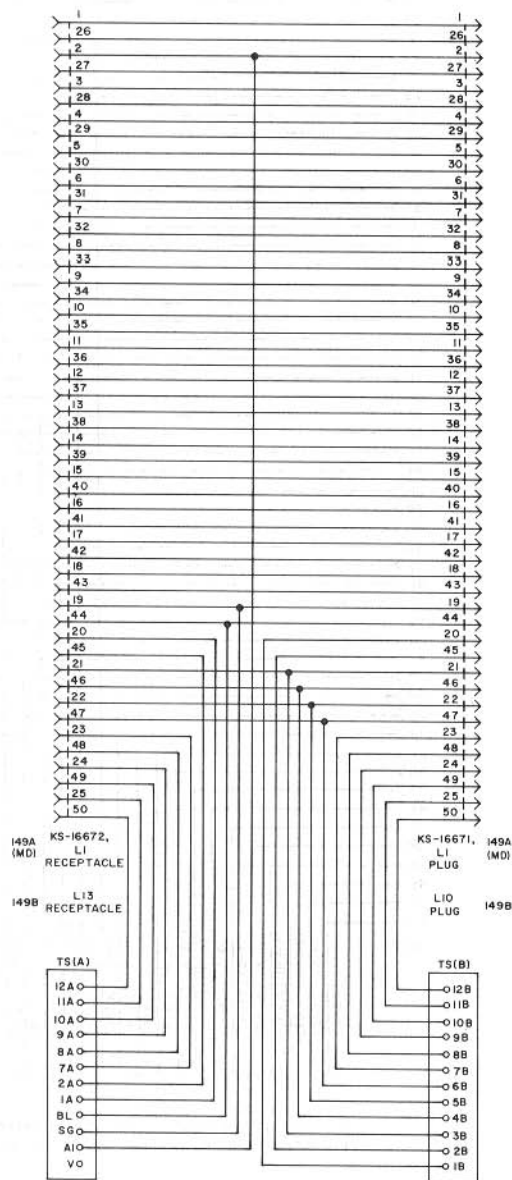
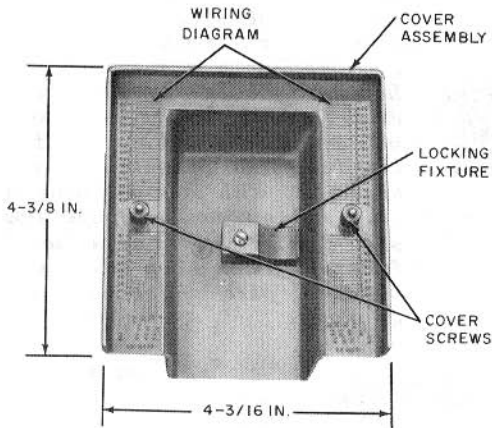

Fig. 5—149A (MD) and 149B Adapter, Schematic
Fig. 6—149B Adapter, Inside Cover
- The plug and receptacle are wired as shown in Fig. 5. Terminal strip A is wired to pins of the receptacle, and terminal strip B is wired to pins of the plug.
- Has a removable high-impact polystyrene cover (Fig. 6).
- A reversible locking fixture attached to the inside of the cover (Fig. 6) secures an external plug (KS-16689,L1 plug-ended cord) to the KS-16672,L13 receptacle.
- The wiring diagram (Fig. 5) is also molded into the inner surface of the cover assembly (Fig. 6).